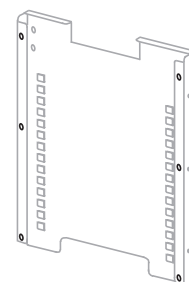

Figure 1-10. Grommets on back of duct sheet
1. Installed included grommets into the back flange of each duct sheet; 6 grommets per sheet. See Figure 1-10.